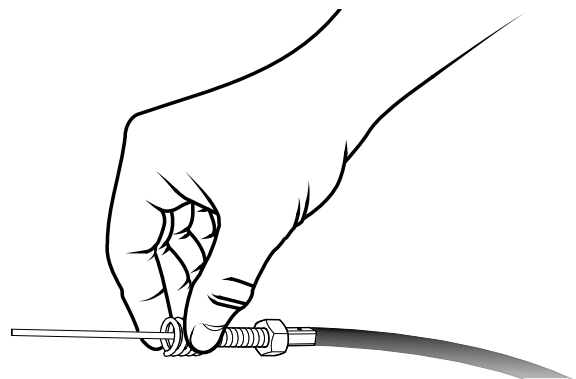

Figure 16. Clutch Engagement Spring
4. Now add the clutch engagement spring (Figure 16).